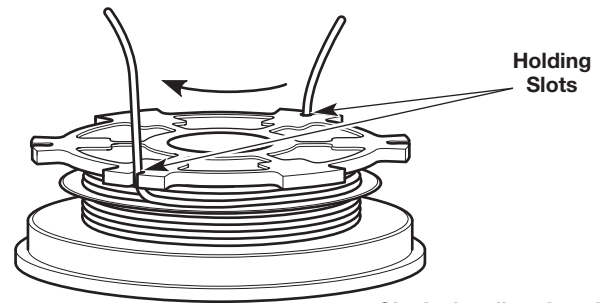

Fig. 22
3. Insert the two 6-inch ends into the two .095 holding slots (Fig. 22).
4. Insert the two 6-inch ends into the two .095 holding slots (Fig. 22).